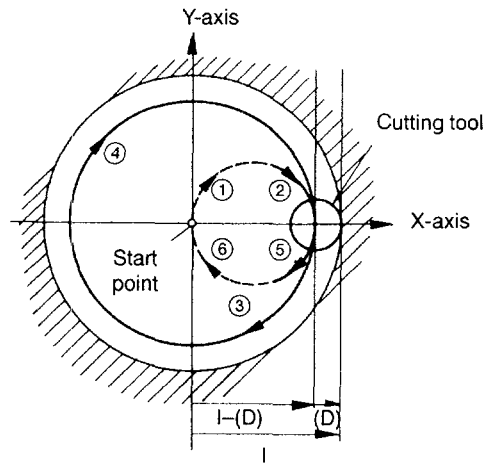
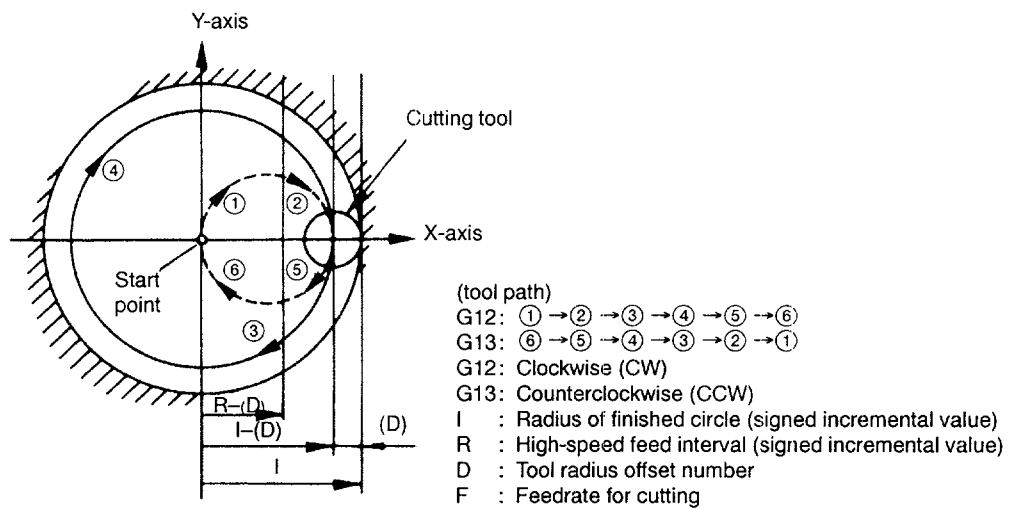

Fig. 4.21 Circle Cutting Commands (G12, G13)
Fig. 4.22 High-speed Feed Interval Designation by R
By specifying “G12 (or G13) I ···R ···D ···F ···;”, circle cutting is executed in the manner shown in Fig. 4.21. The interval in which a cutting tool is moved at a high speed can be specified by R. In Fig. 4.22, the intervals ① and ⑥ indicate the high-speed feed intervals.